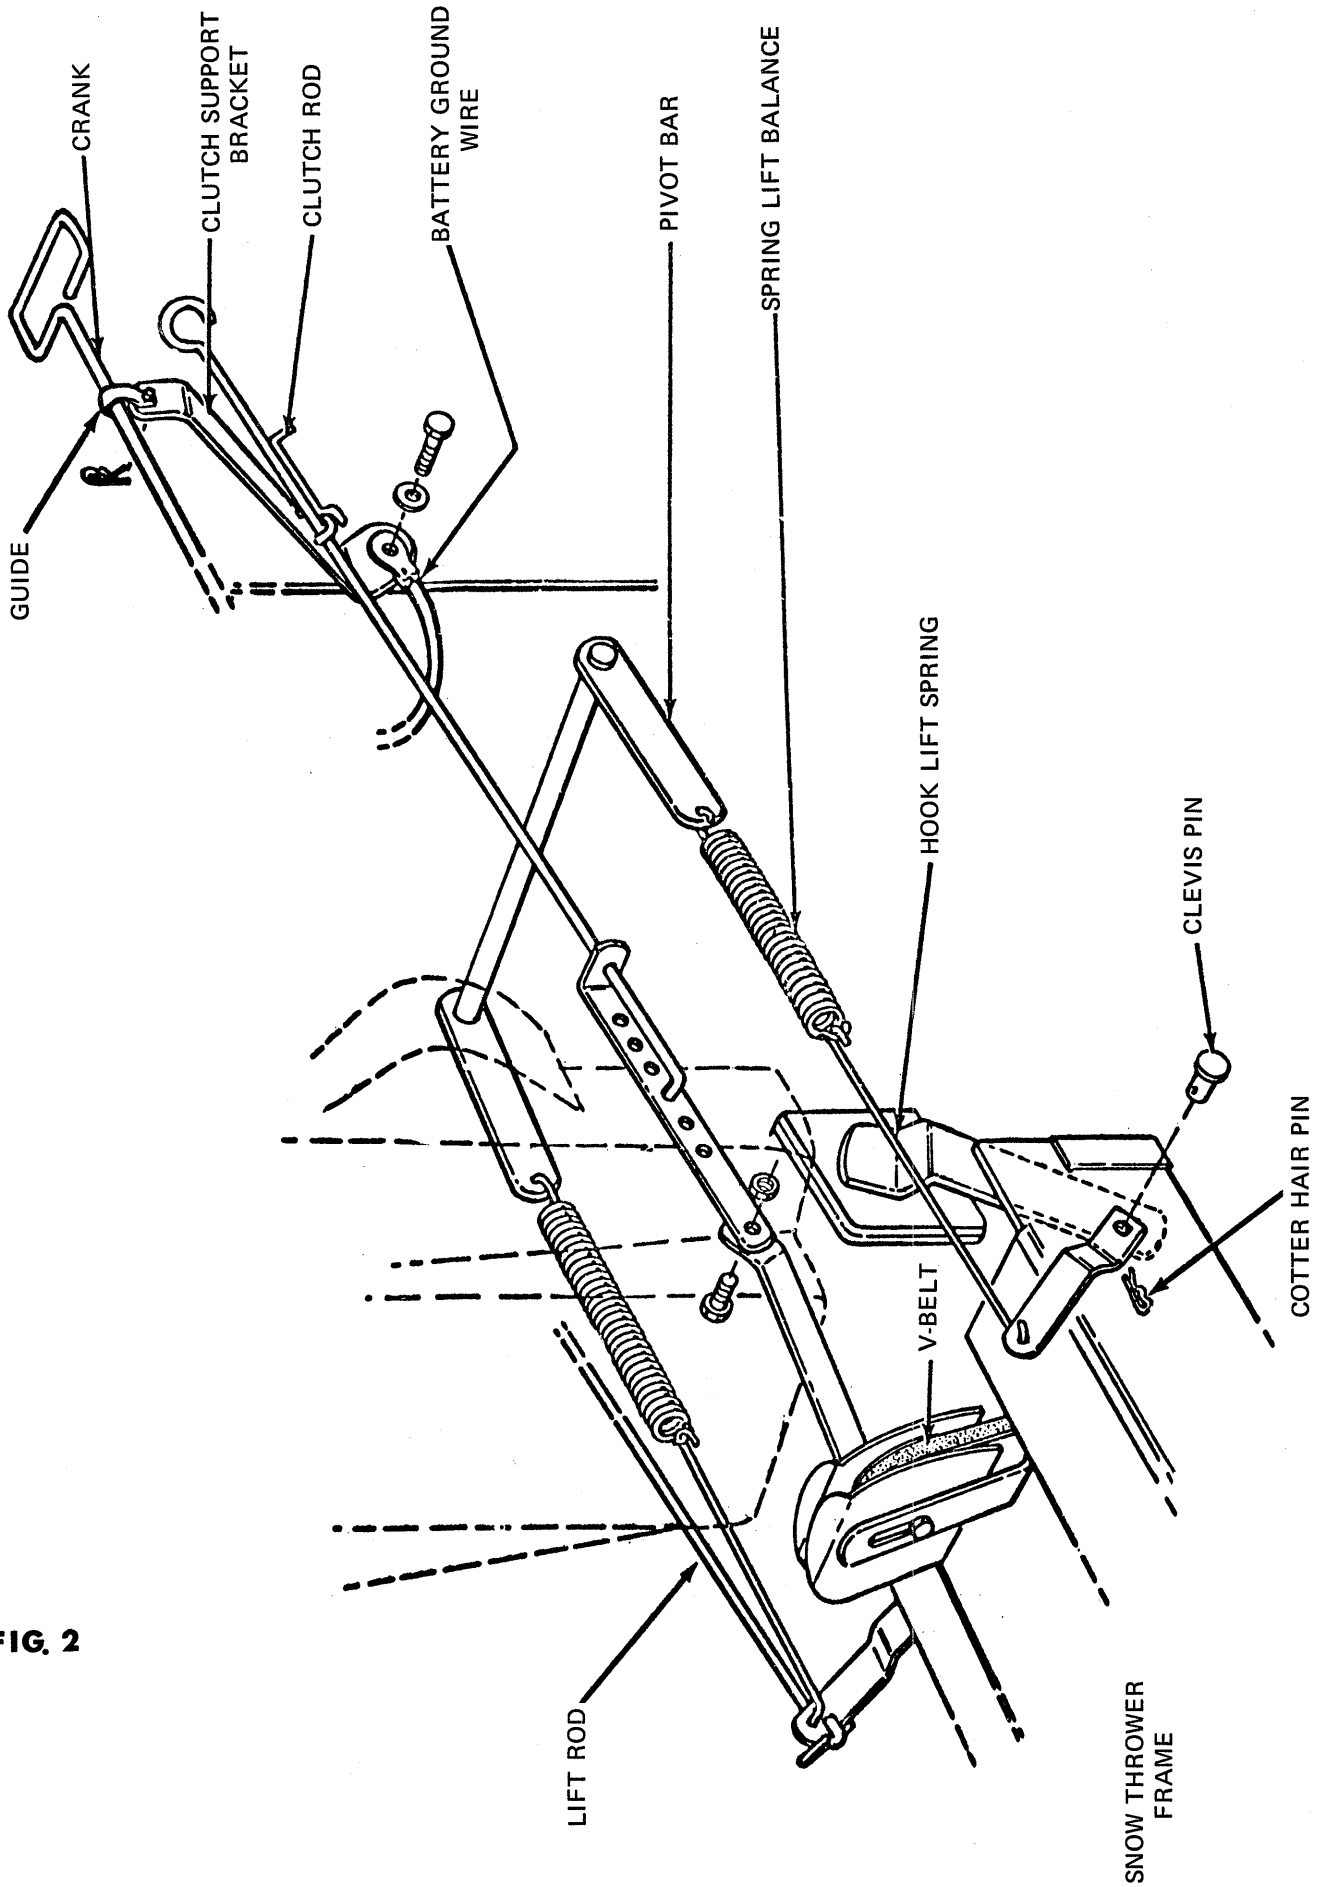

FIG. 2
7. Attach snow thrower to mounting brackets with clevis pins and cotter hairpin. See Fig. 2.